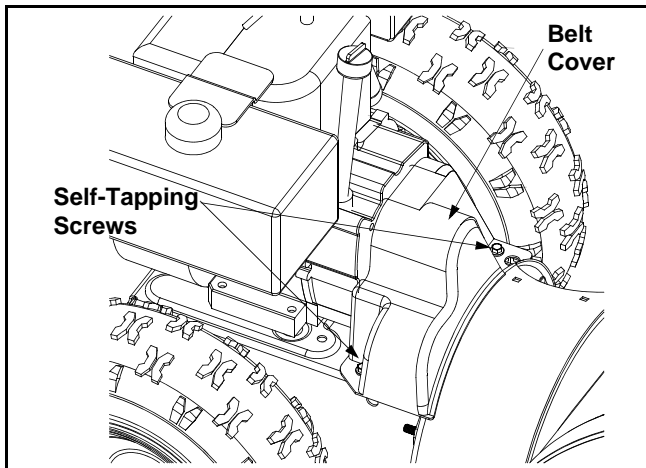

Figure 20
- Remove the plastic belt cover on the front of the engine by removing the two self-tapping screws. See Figure 20.